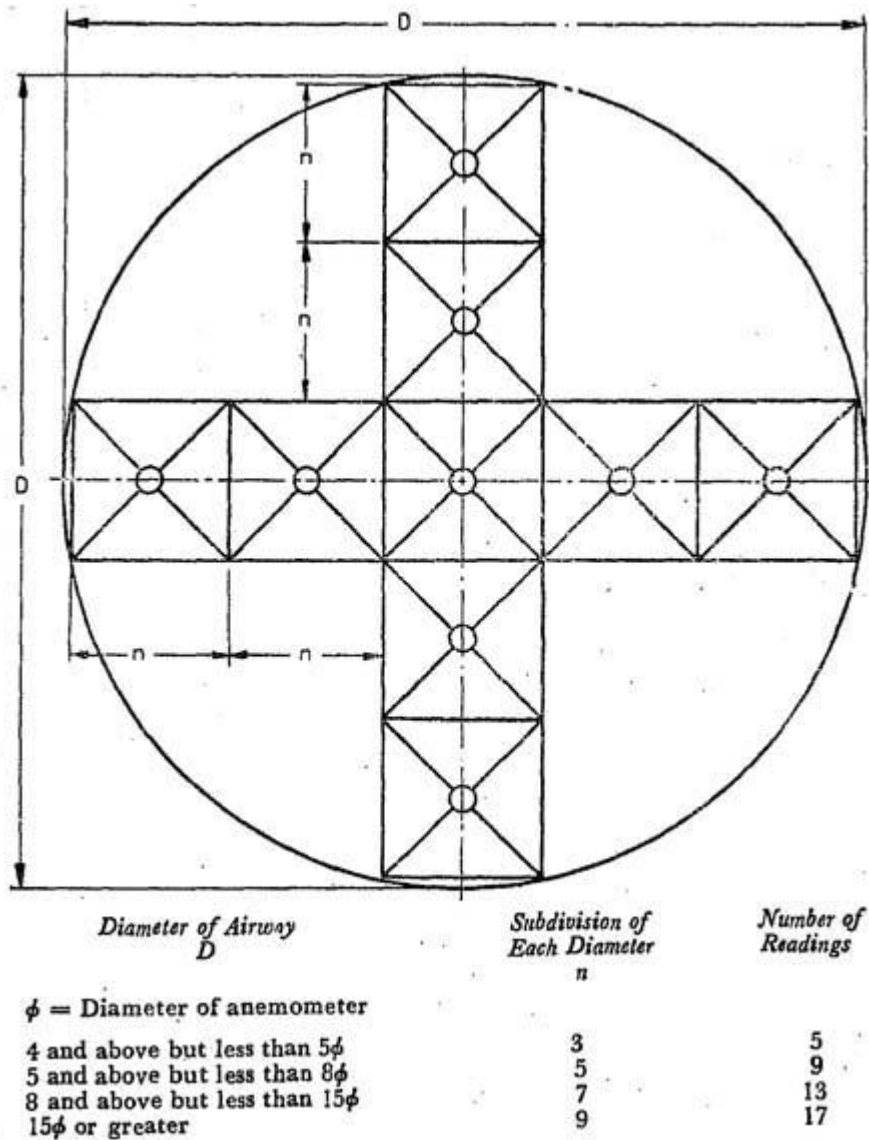

Fig. 2B Methods of Dividing the Area of Airway
5.1.3 For the air delivery test, the cylindrical airway shall be considered to be divided into a number of equal square areas by lines parallel to the diameter D as shown in Fig. 2B. Measurements shall be taken with the centre of the anemometer vane wheel at the centre of each area, as shown in the Fig. 2B. The number of areas shall be determined by the ratio of D to the diameter of the ring surrounding the anemometer vanes, the relationship being shown in the table under Fig. 2B.